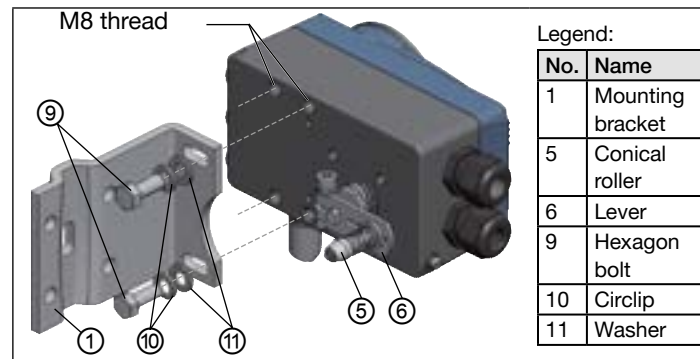

Fig. 8: Attaching mounting bracket
→ Attach mounting bracket ① to the back of the Type 8792/8793 with hexagon bolts ⑨, circlip ⑩ and washers ⑪ (see “Fig. 8”).
The conical roller on the lever of the position sensor must be able to move freely in the hoop (refer “Fig. 8”) along the entire stroke range of the actuator.